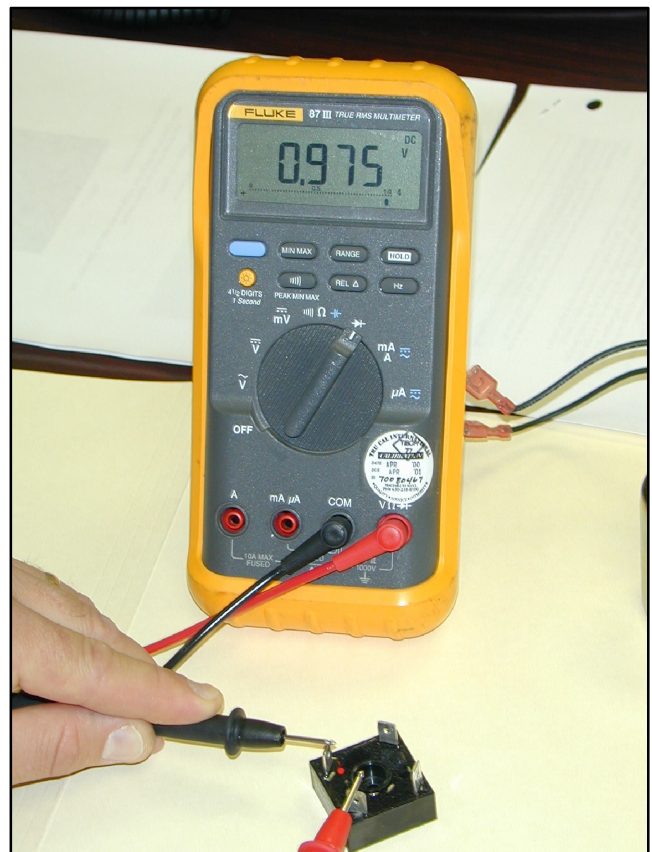

Figure 7-16 Checking Diode Operation of Rectifier
8. Check the diode operation of the rectifier. See Figure 7-16 and Section 5.3 for rectifier test instructions. If the rectifier is good, go to step 11. If the rectifier is bad, continue on.